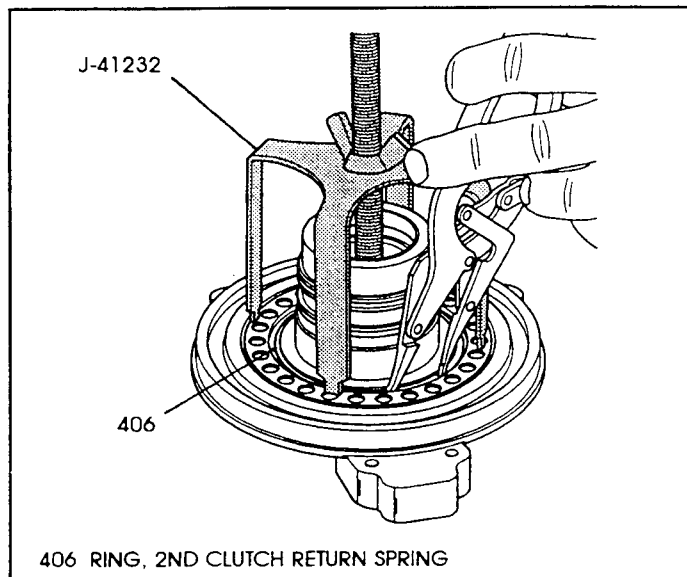

Figure 158
6. Install compressor tool J-41232 on the driven sprocket support, as shown in Figure 158, and compress the return spring.
7. Install the 2nd clutch snap ring (406) as shown in Figure 158, and remove compressor tool after snap ring is installed.